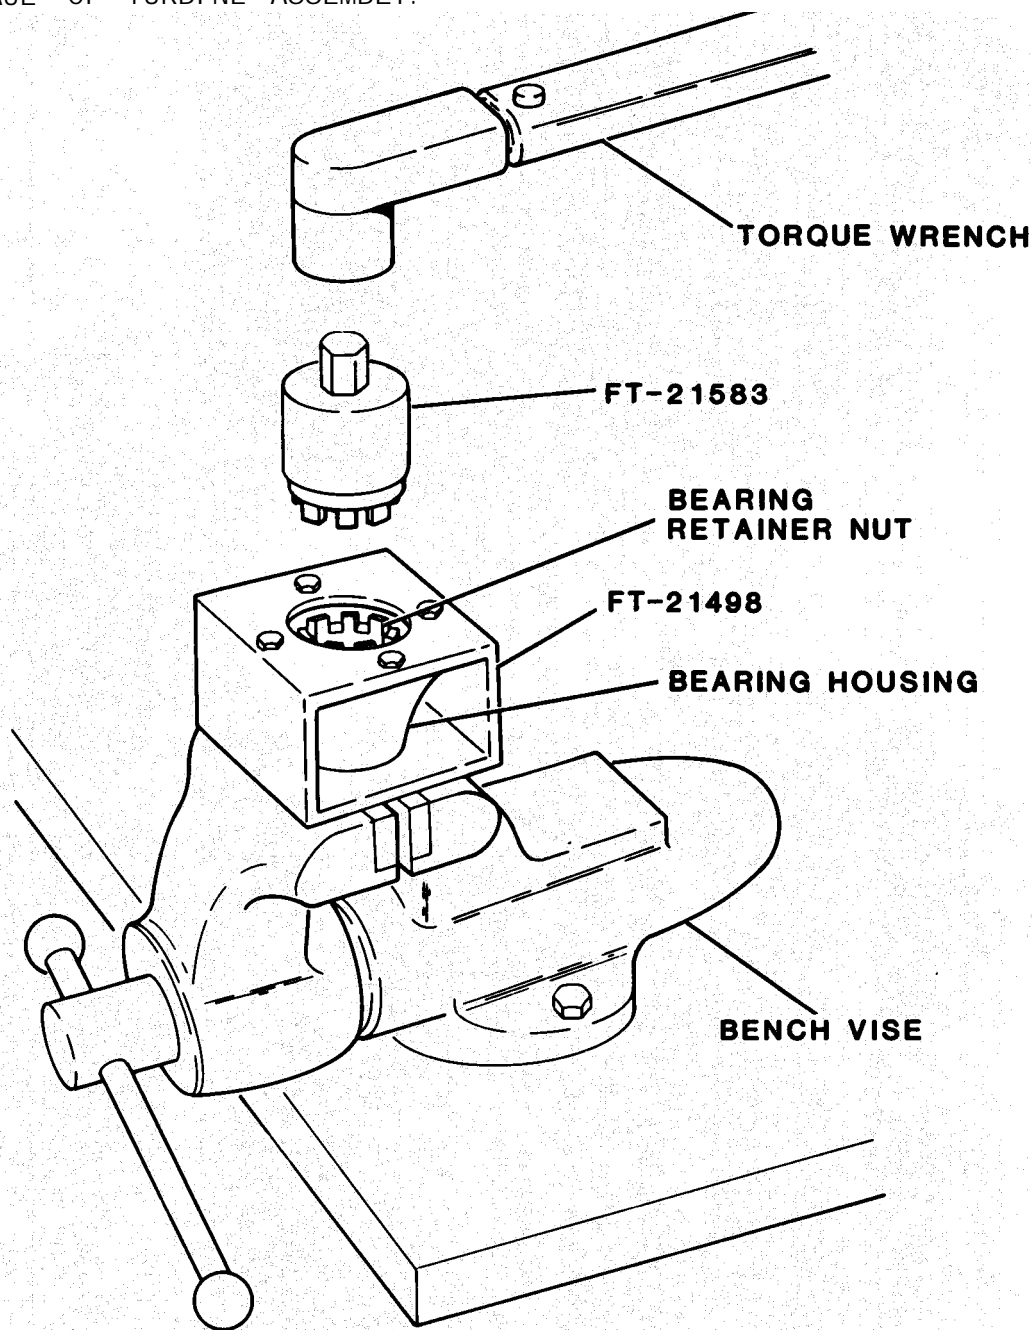

Figure 8-10. Removing/Installing Bearing Retainer Nut Using Fabricated Tools FT-21498 and FT-21583
(17) Remove screws (24), key lockwashers (25), and diffuser cap (26) Discard key washers
(18) Remove wave washer (27) and shim set (28) from diffuser (2) Measure and record thickness of shim set Discard wave washer.
(19) Remove labyrinth seal (29) from back of diffuser (2)
(20) Remove retaining ring (30), oil passage plug (31), and performed packing (32) from diffuser (2) Discard performed packing.
(21) Remove compressor wheel (33) on shaft as a unit
(22) On front of compressor Inlet housing (3), remove lockwire, bolts (34) and washers (35)
(23) Install two jackscrews In opposite bolt holes of compressor inlet housing (3) Tap jack-screws lightly to free bearing housing (36) from inlet housing. Remove jackscrews.
(24) Remove shim set (37) and tab washer (38) Measure and record thickness of shim set.
(25) Remove preformed packing (39). Discard performed packing.
(26) Place bearing housing (36) in fabricated tool (FT-21498, Figure 8-10) and secure
(27) Using fabricated tool (FT-21583), remove bearing retainer nut.
(28) Remove bearing housing from fabricated tool (FT-21498)